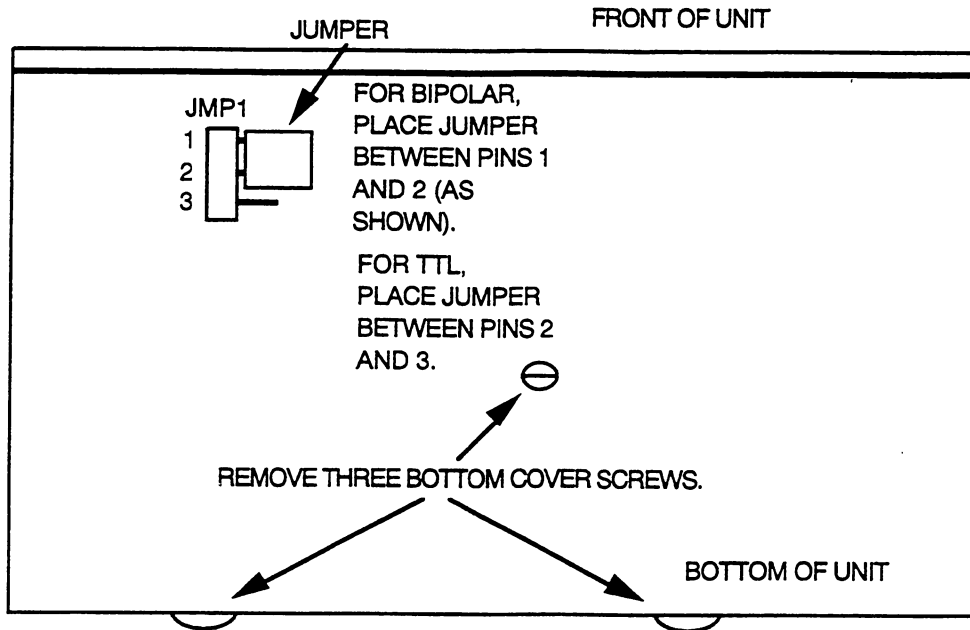

Figure 2-2. Trigger Source Selection
- Change the jumper as shown in figure 2-2.